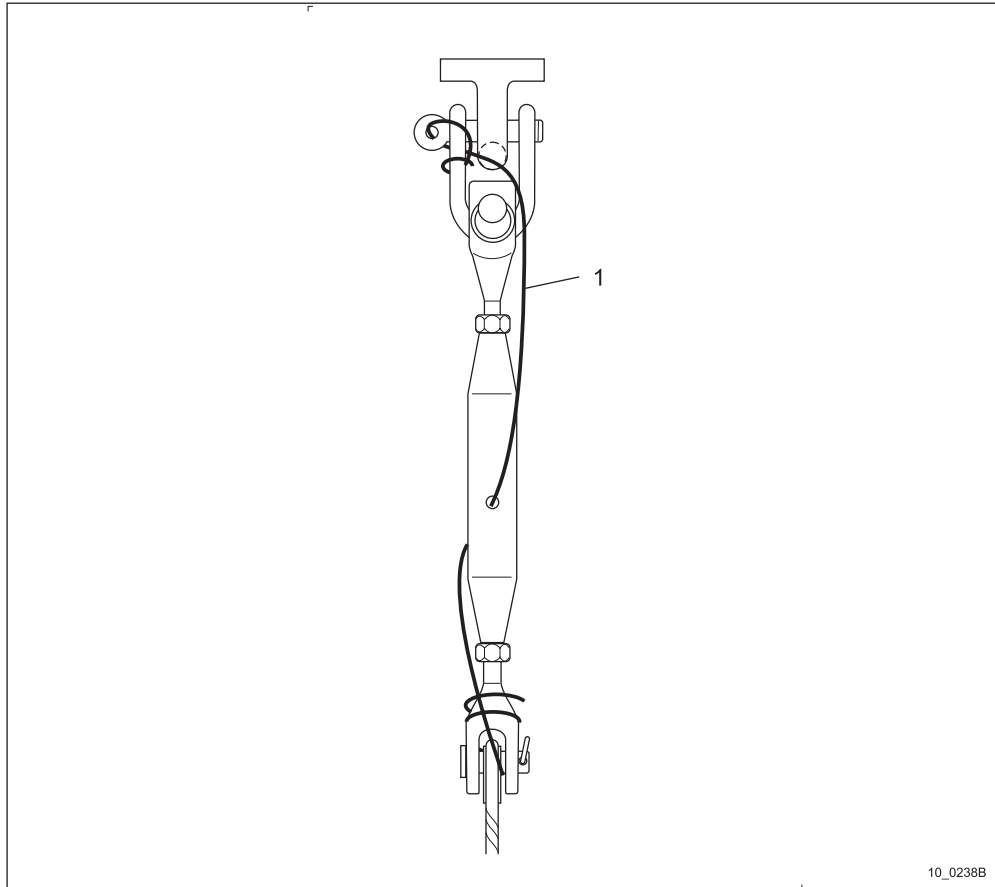

Figure 10
7. Lock turnbuckle and shackle with stainless steel wire, 1-2 mm in diameter, see figure 10.